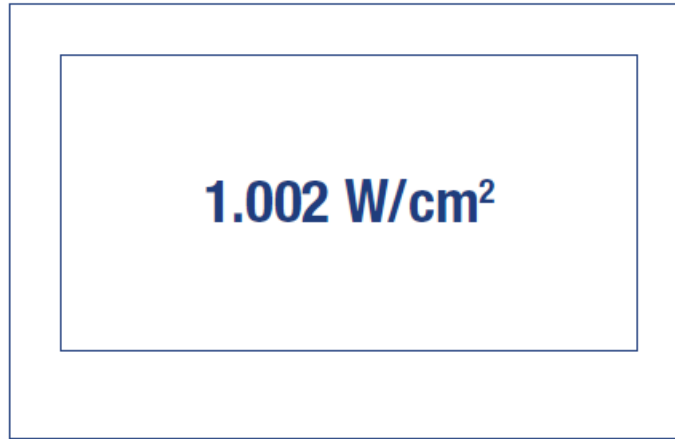

Figure 5 “Data Mode” with Detector Connected - No Integration
- Then, the display goes into the “data mode”. If a detector is attached, the measurement results are shown (Figure 5).